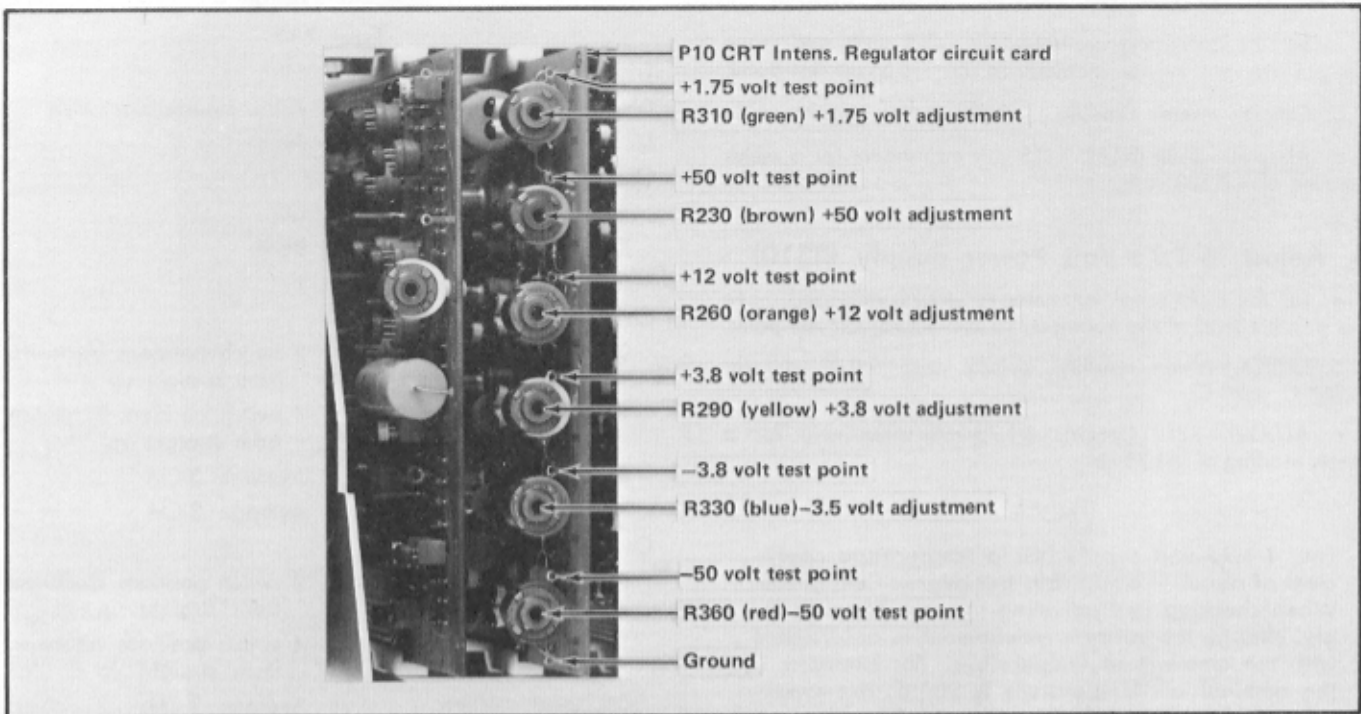

Fig. 7-2. Adjustment and test point locations for steps 1 through 9.
- c. Connect the negative lead of the voltmeter to the Gnd test point and the positive lead to the +50-volt test point on the CRT Intens./Regulator circuit card (see Fig. 7-2).
- b. Connect the positive lead of the voltmeter to the -50-volt test point (see Fig. 7-2).
- b. Connect the positive lead of the voltmeter to the +12-volt test point (see Fig. 7-2).
- a. Set the differential voltmeter to +3.8 volts and move the positive lead of the voltmeter to the +3.8-volt test point (Fig. 7-2).
- c. ADJUST—R290 (yellow), +3.8-volt adjustment (Fig. 7-2) for a meter reading of +3.800 volts.
Voltage Test Point (See Fig. 7-2)	Maximum Ripple at twice line frequency Peak-to-Peak Voltage